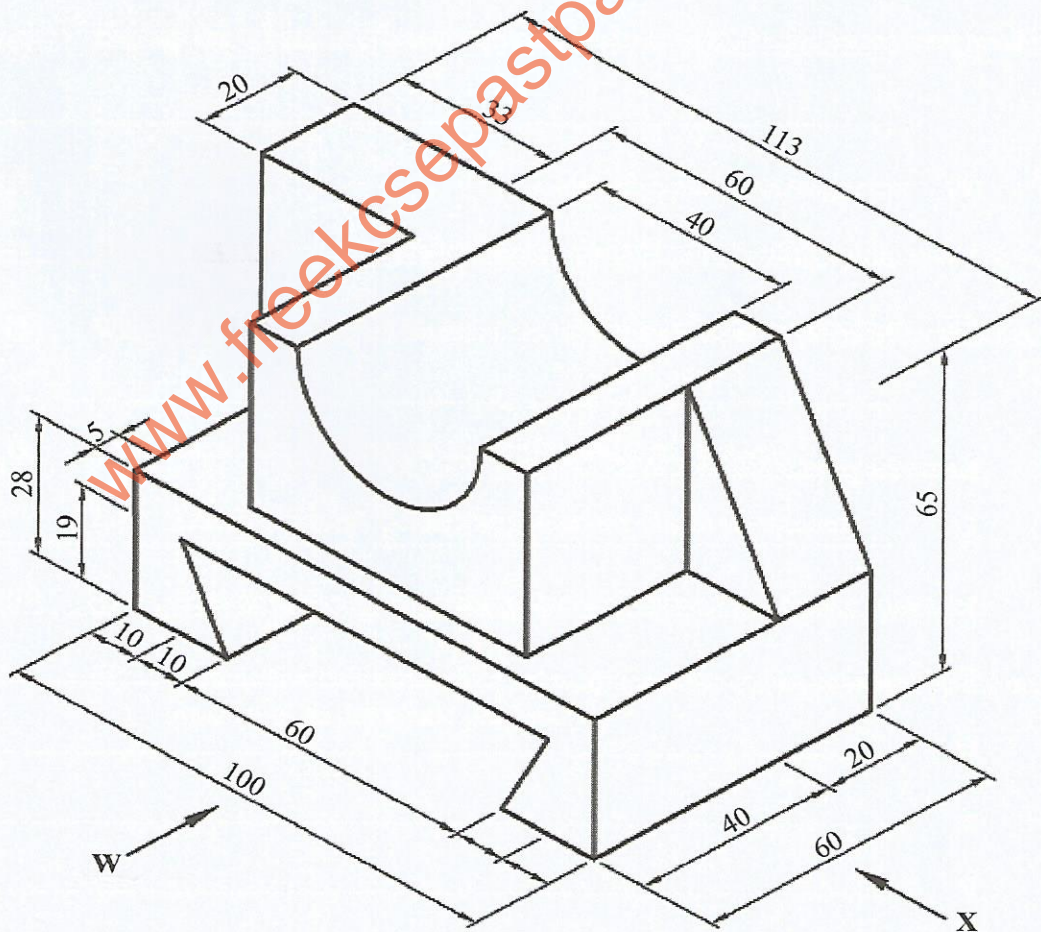

Figure 1
11. **Figure 1** shows an isometric drawing of a bracket.